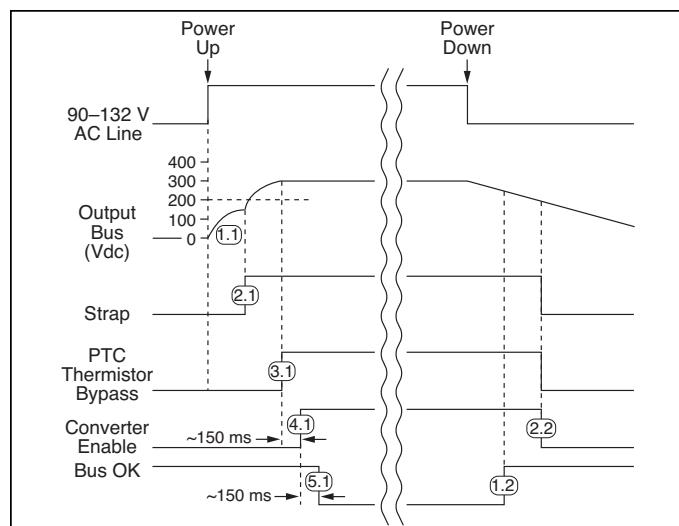

Figure 8 — Timing diagram: power up/down sequence
#### Power Up Sequence. (*see Fig. 8*):
**Power Down Sequence.** (*see Fig. 8*) When input power is turned off or fails, the following sequence occurs as the bus voltage decays: